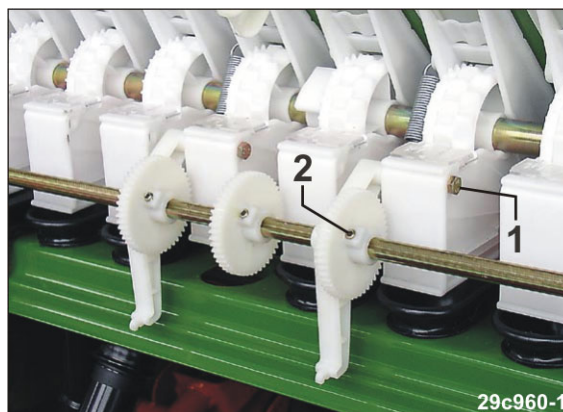

Fig. 248
4. Remove (Fig. 248/1) bolts.
5. Loosen the hexagon socket screws (Fig. 248/2).